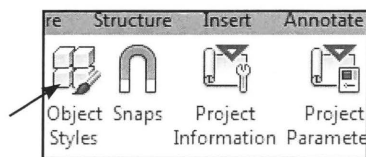

Fig. 10.82. Klik *Manage - Object Styles*.
- Klik *Manage - Object Styles* (Fig. 10.82).